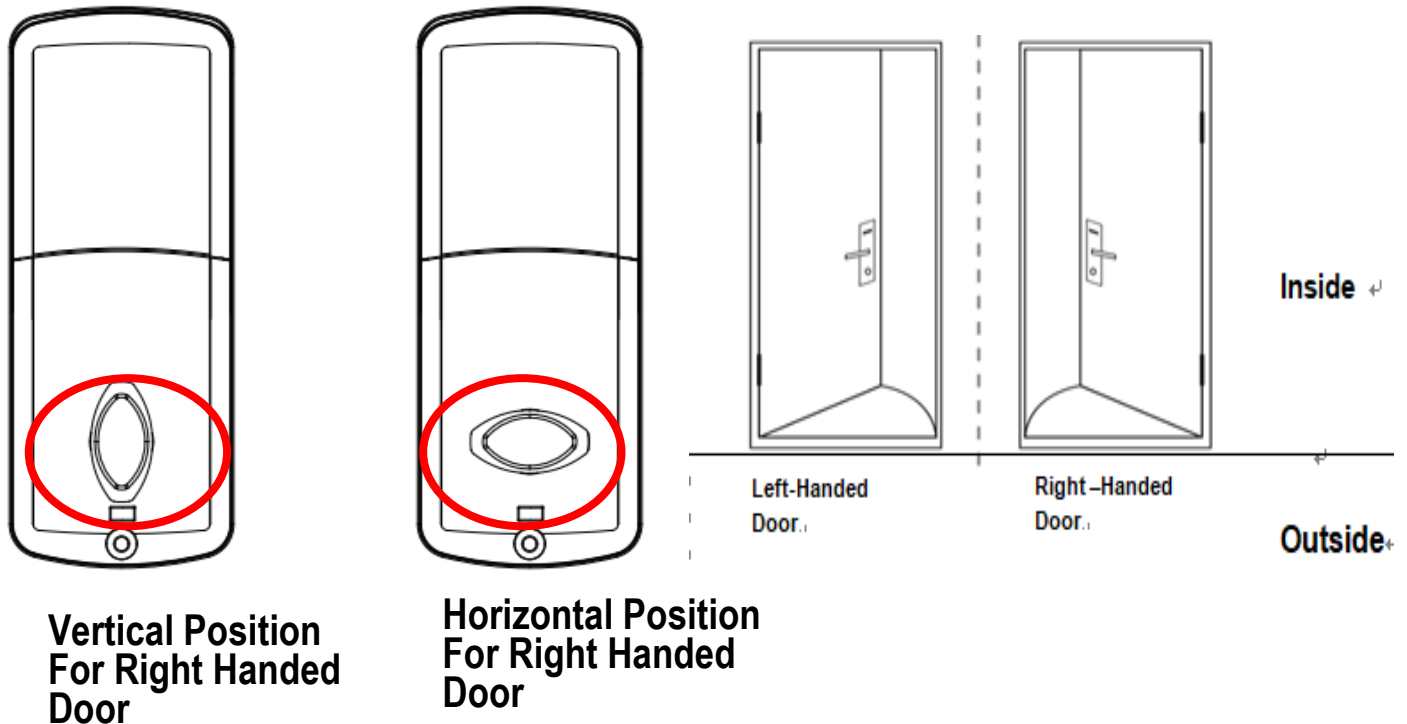

Figure C-5
- e. **Thumb turn on inside escutcheon need to be turned to different position for right handed door or left handed door in inside escutcheon installation. (see Figure C-5)**